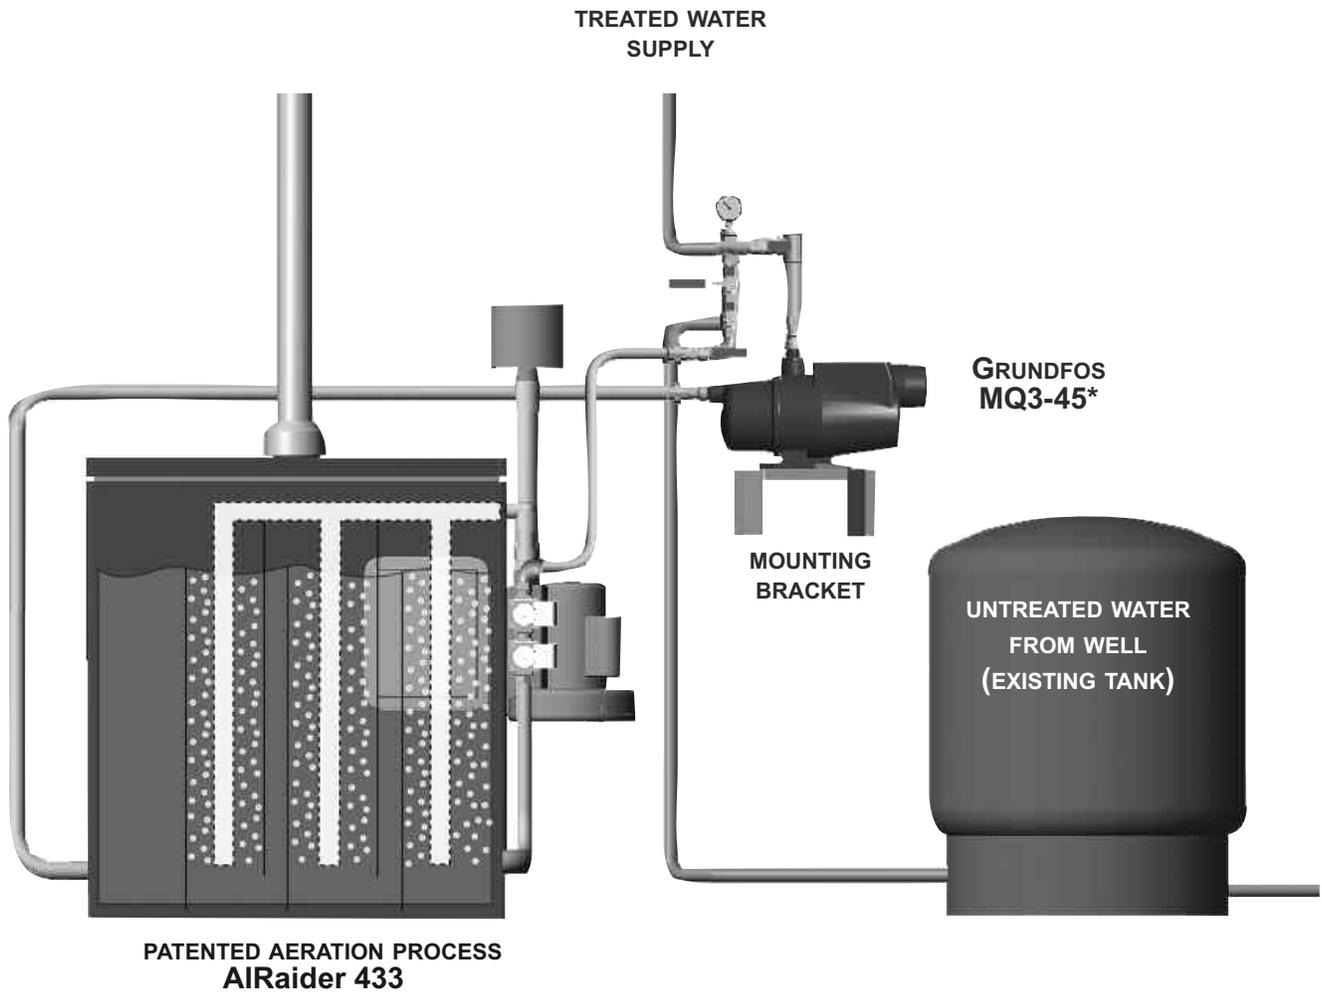

Figure 3
2.2. Readyng the AIRRaider™ for Installation (see Figure 3 for diagram of installed system)